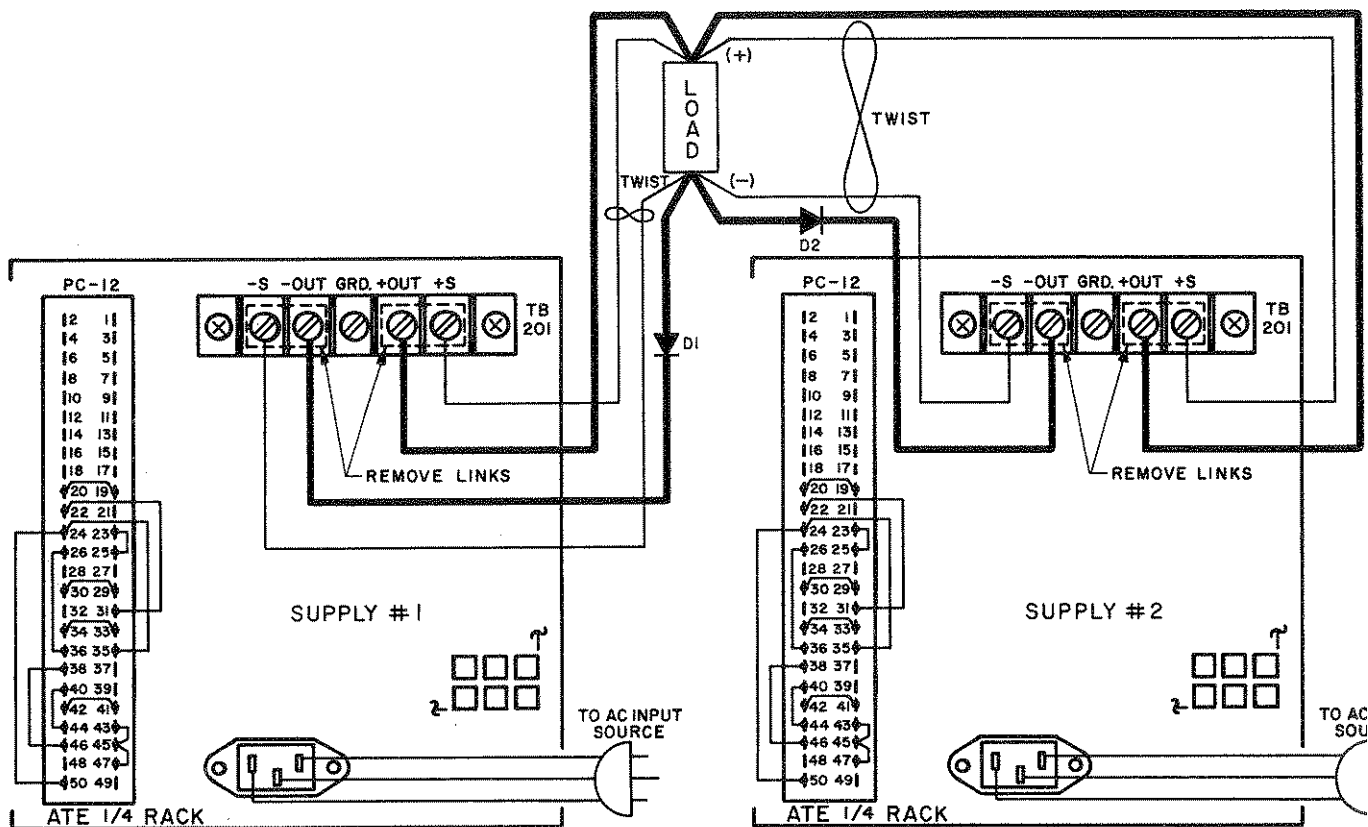

FIG. 3-28 REDUNDANT PARALLEL CONNECTION WITH ATE POWER SUPPLIES.
- 3-112 Two ATE Power Supplies can be connected in parallel to a load in such a way that if one of the power supplies fails or is interrupted in any other manner, the other will continue to supply uninterrupted load current. The two power supplies are isolated from each other by means of external diodes (D1, D2 in FIG. 3-28) which must be rated for the maximum load voltage and current of the ATE units used.
- 2) Make all load and sensing connections as shown in FIG. 3-28.